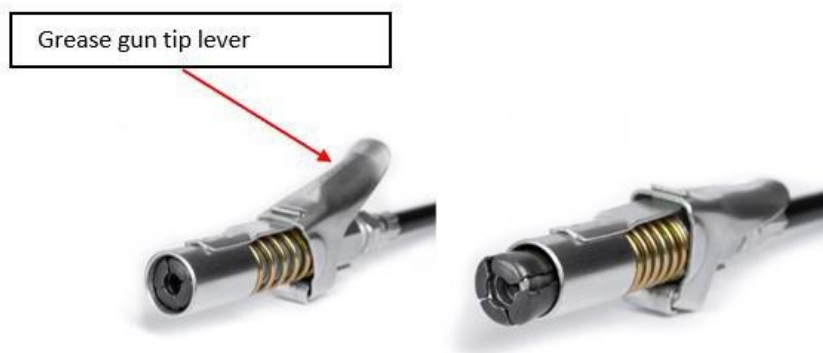

Fig. 100 Lubricator tip lever
6. Press down on the grease gun tip lever (Fig. 100), then put the tip on the grease nipple and release the lever until the tip grips the nipple. To release the tip press the lever again and pull the tip off the grease nipple.
7. Press down on the grease gun tip lever (Fig. 100), then put the tip on the grease nipple and release the lever until the tip grips the nipple. To release the tip press the lever again and pull the tip off the grease nipple.